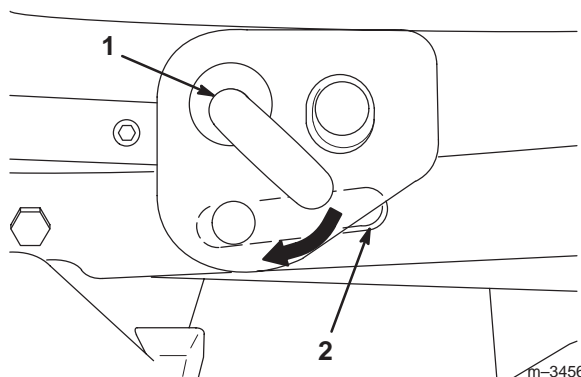

Figure 7
1. Slots in the side mounting brackets (2)
6. Lower the attachment lift arm fully and adjust the mower position until you can pull out on the J-pin of the lift arm and slide it into the slot in the mounting bracket of the mower (Fig. 7).